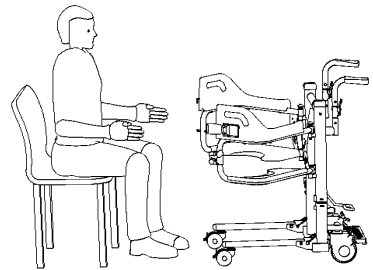

Figure 8
- After opening the seat frames on both sides, move the transfer vehicle directly in front of the user. Adjust the position of the transfer vehicle so that the user's center of gravity is aligned with the center of the seat frame, and the lower part of the seat frame lightly touches the surface of the chair. (Figure 8)